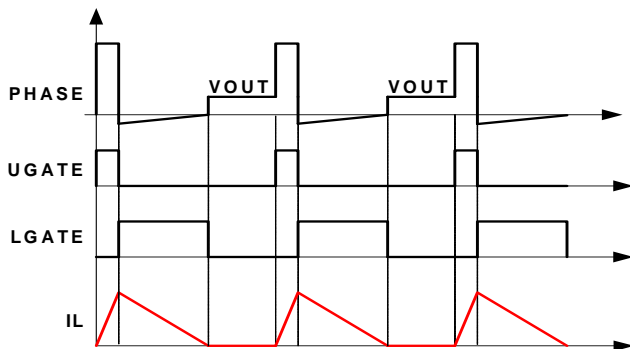

FIGURE 13. DIODE EMULATION
The ISL95813 can operate in diode emulation (DE) mode to improve light load efficiency. In DE mode, the low-side MOSFET conducts only when the current is flowing from source to drain and does not allow reverse current, emulating a diode like a standard buck regulator. As Figure 13 shows, when L_GATE is on, the low-side MOSFET conducts, creating negative voltage on the phase node due to the voltage drop across the ON-resistance. The controller monitors the current through monitoring the phase node voltage. It